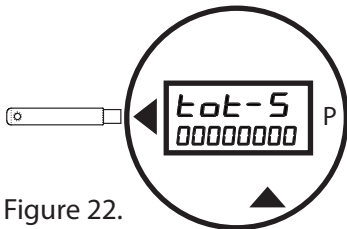

Figure 22.
- Pass the wand over the **◀** to move and activate each digit (Figure 22).